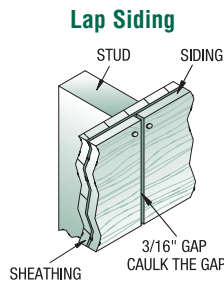

FIG. 2
- All lap products require that the butt joints be located on the studs and nailed at the joints. See Fig 2.
- Leave 3/16" gap at all butt joints, around all doors and window frames, and at joints in the soffits for all lap and square edge siding. Caulk all gaps. *See Fig 2.*
- Vertical butt joints must be located only on studs. Each piece of siding must be nailed top and bottom to studs. *See Fig. 2.*